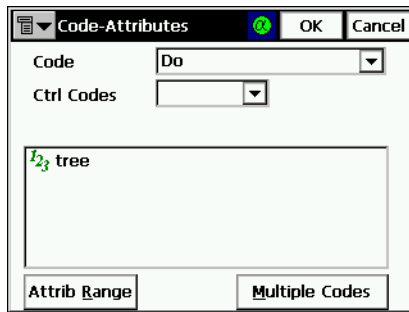

Figure 3-12. Code-Attributes
-  : the *Attributes List* bitmap, opens the **Code-Attributes** screen to set values for attributes available for the code chosen (Figure 3-12 on page 3-9).